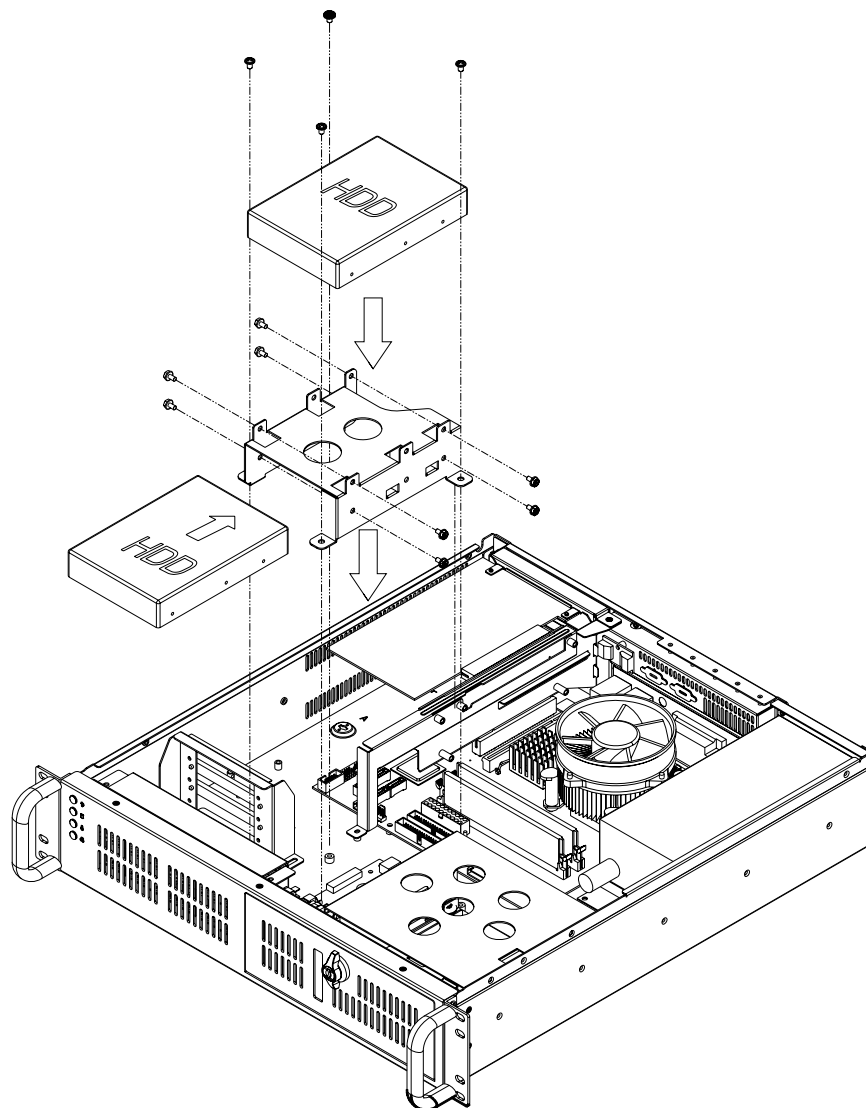

Figure 2.7 Installing the internal HDD
2. Insert the disk drive into the proper location in the bracket and secure them with the screws provided. (see Figure 2.7)